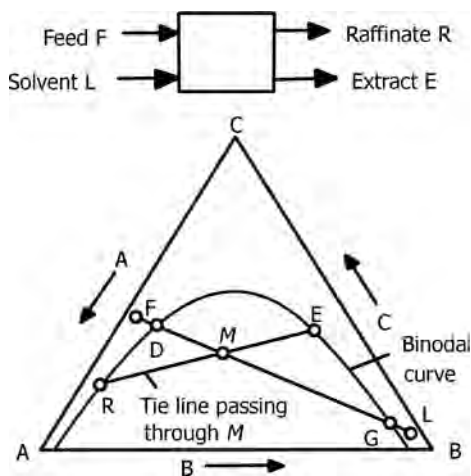

FIGURE 17.47 Single-stage extraction
- > Referring to Figure 17.47, the position of the mixing point M can be determined from the ratio of the distances
- From the triangular diagram, Figure 17.47, it is obvious that a separation of the two phases is only possible if the mixing point M lies in the two-phase region. The crossing points of the line FL with the binodal curve are the extrema for M (minimum and maximum amount of solvent).